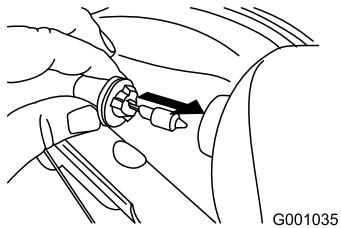

Figure 56
4. Insert a new bulb into the back of the headlight (Figure 56).